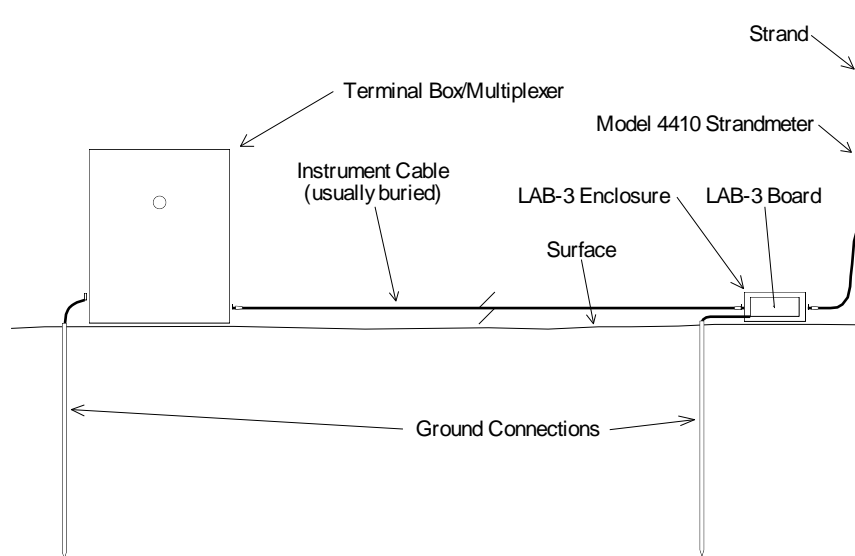

Figure 3 - Lightning Protection Scheme
- Lightning arrestor boards and enclosures are available from Geokon that install near the instrument. The enclosure has a removable top so, in the event the protection board (LAB-3) is damaged, the user may service the components (or replace the board). A connection is made between this enclosure and earth ground to facilitate the passing of transients away from the gage. See Figure 3. Consult the factory for additional information on these or alternate lightning protection schemes.